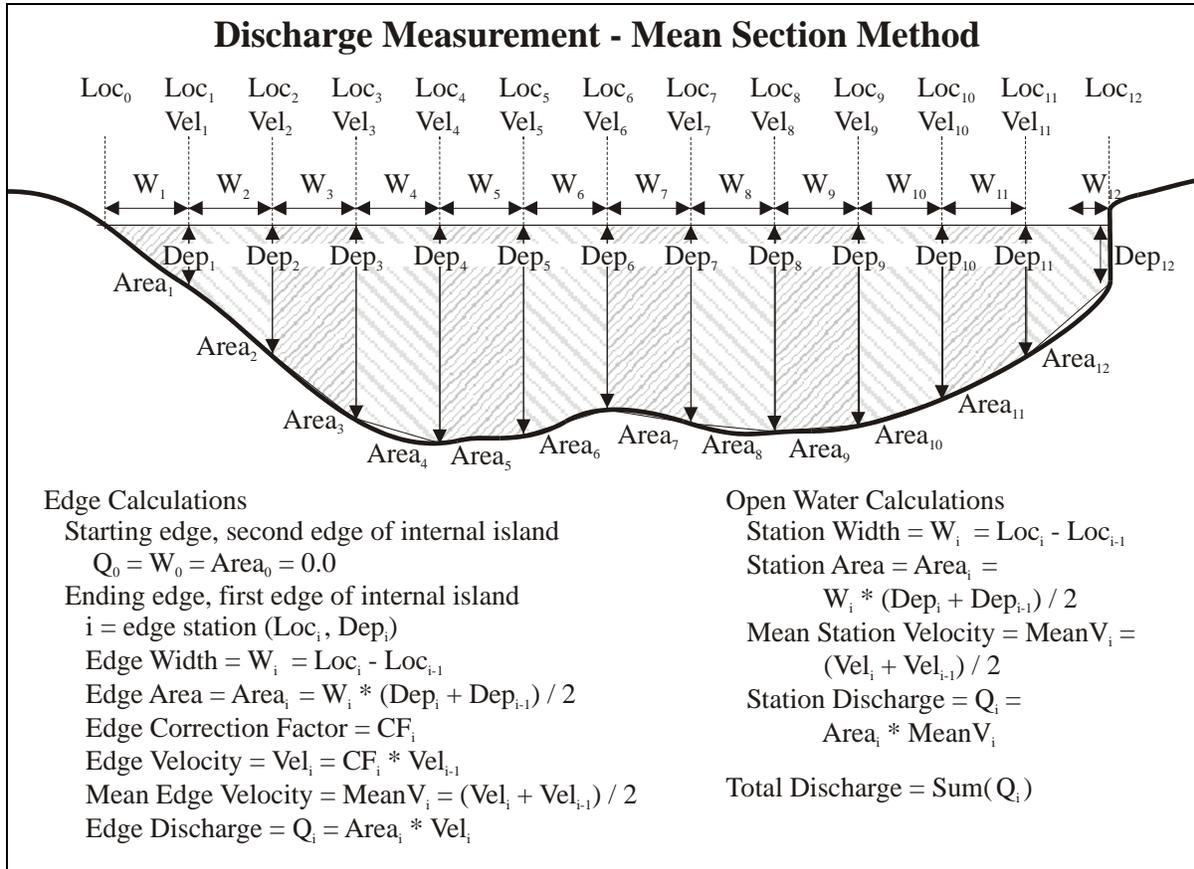

Figure 3 – Mean Section Discharge Equation
- Mean section equation (Figure 3)